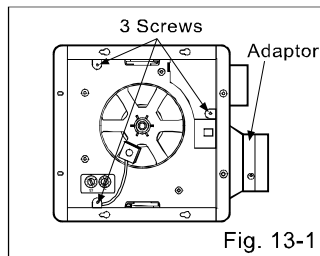

Fig. 13-1
- Loosen 3 screws (but do not remove them from blower). (Fig. 13-1)